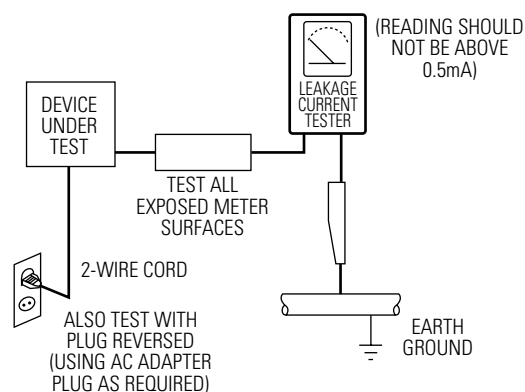

Fig. 1-1 AC Leakage Test
4. Leakage Current Hot Check (See Fig. 1-1) :